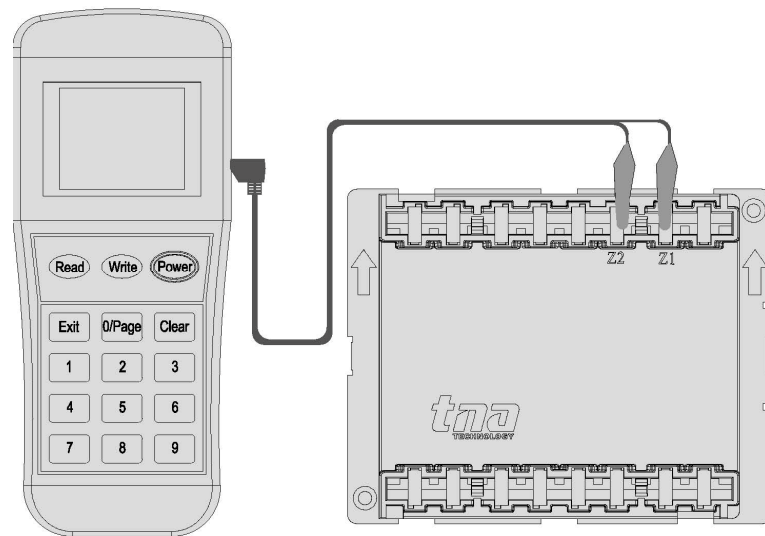

Figure 6: Programmer Connection Detail
1. Connect the programming cable to Z1 and Z2 terminals (Figure 6). Press **“Power”** to switch on the unit.
2. Connect the programming cable to Z1 and Z2 terminals (Figure 6). Press **"Power"** to switch-on the unit.
2. To set to check mode. Connect the programming cable to Z1 and Z2 terminals (Figure 6). Press **"Power"** to switch-on the unit.
1. Connect the programming cable to Z1 and Z2 terminals (Figure 6). Press **"Power"** to switch-on the unit.